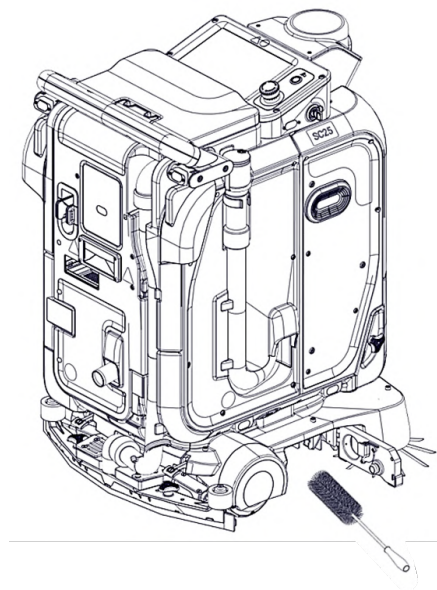
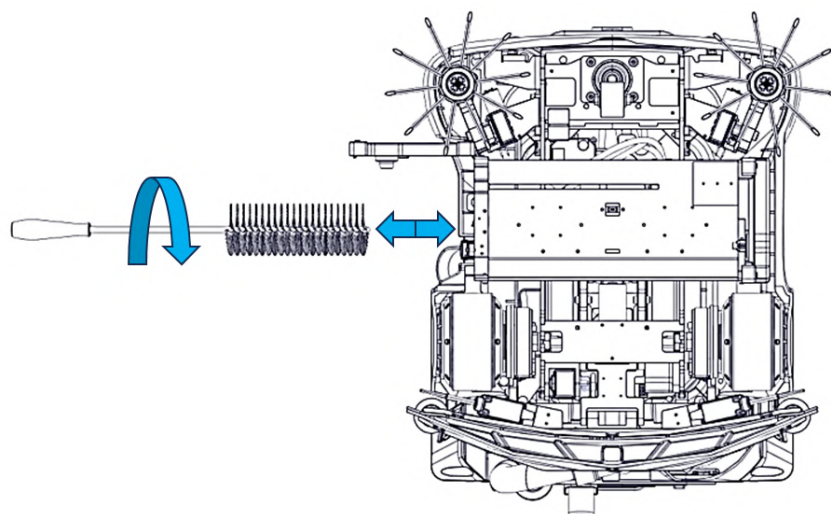

FIGURE 10-14
FIGURE 10-15
3. Use the manual cleaning brush to clean **(Fig. 10-14)** the underside of the brush deck **(Fig. 10-15)**.